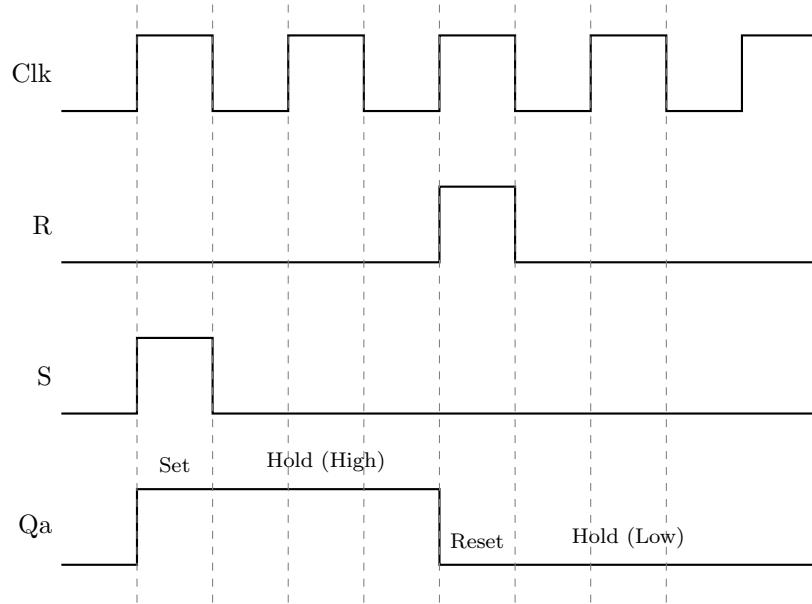

Figure 4: Expected waveforms for the RS latch.
7. Simulate the behavior of your VHDL code by using the simulation feature provided in the Quartus software. First, create a vector waveform file (*.vWF) using the Quartus software to specify the inputs and outputs of your circuit. Then, use the commands available in the Quartus Simulation Waveform Editor tool to run a simulation of the circuit. The resulting waveforms should look similar to those shown in Figure 4.